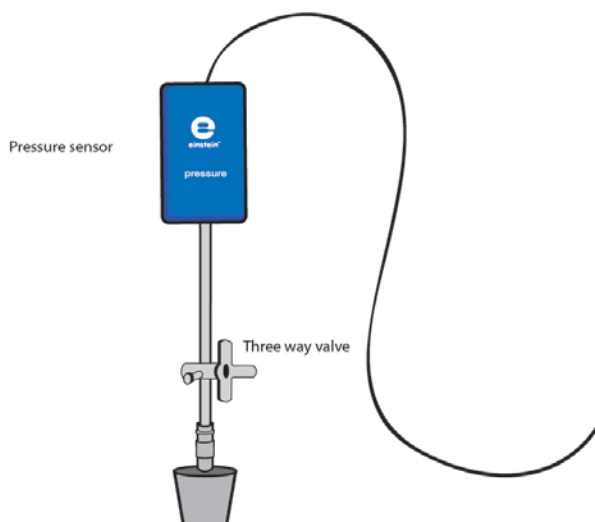

Figure 3: Three-way valve – Position A
3. Reset the apparatus. Turn the three-way valves to position A, and then return to position B (see Figures 3 and 4). The pressure in the tubes should now equal the atmospheric pressure.